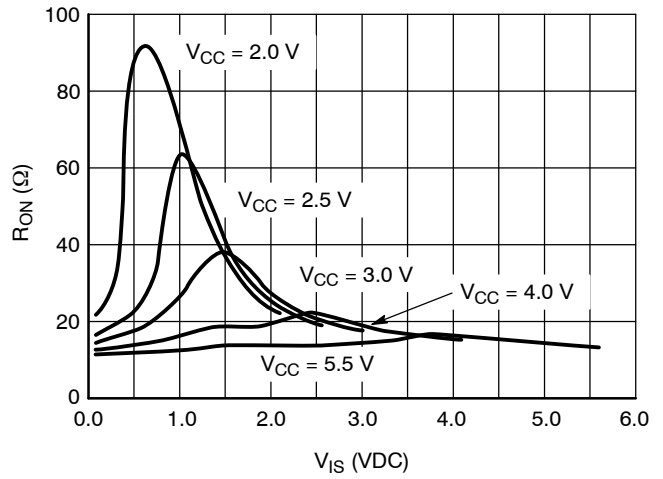

Figure 17.  $R_{ON}$  vs.  $V_{CC}$ , Temp =  $25^{\circ}\text{C}$
| R ON                              | Maximum "ON" Resistance (Figures 17 – 23) | V IN = V IL or V IHV IS = GND to V CC I IN   ≤ 10.0 mA   | 2.5             | 85               | 95    | 105    | Ω    |
| R FLAT (ON)                       | ON Resistance Flatness (Figures 17 – 23)  | V IN = V IL or V IH I IN   ≤ 10.0 mAV IS = 1V, 2V, 3.5V   | 4.5             | 4                | 4     | 5      | Ω    |